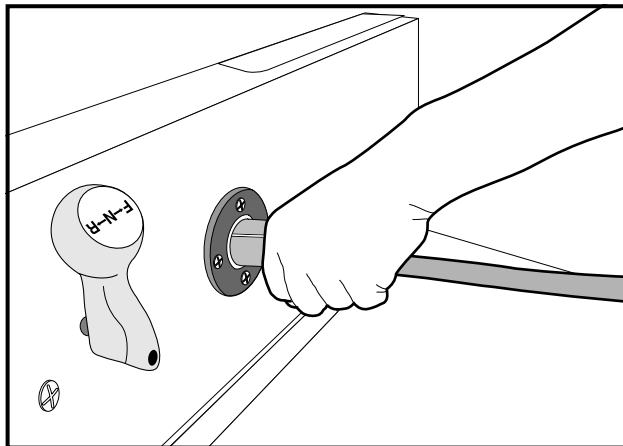

Figure 15 Correct Insertion of Charger DC Plug
- DO NOT ROCK OR BEND THE PLUG. TO CONNECT THE CHARGER PLUG TO THE VEHICLE RECEPTACLE, GRASP THE PLUG HANDLE AND PUSH THE PLUG STRAIGHT INTO THE RECEPTACLE (**FIGURE 15, PAGE 30**).
Insert the charger DC plug into the vehicle receptacle. The charger will turn on two to ten seconds later (**Figure 15, Page 30**).